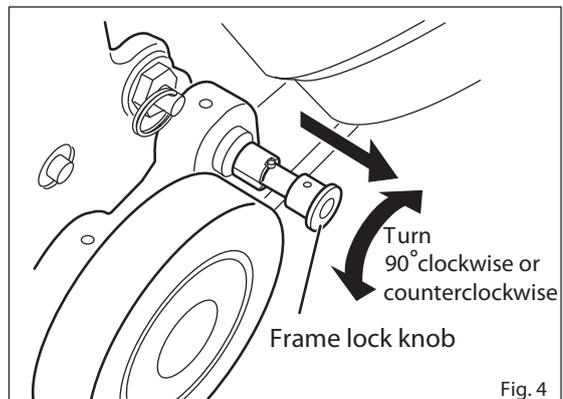

Fig. 4
## 2. Unlocking the Frame (Figs. 4 & 5)
(1) Pull the frame lock knob on the bottom left hand side of the motor and, at the same time, turn it 90°; either clockwise or counterclockwise. (Fig. 4)
(2) When the frame lock knob is protruding, the frame is unlocked. When transporting the unit, use the same process in reverse to lock the frame prior to transport.